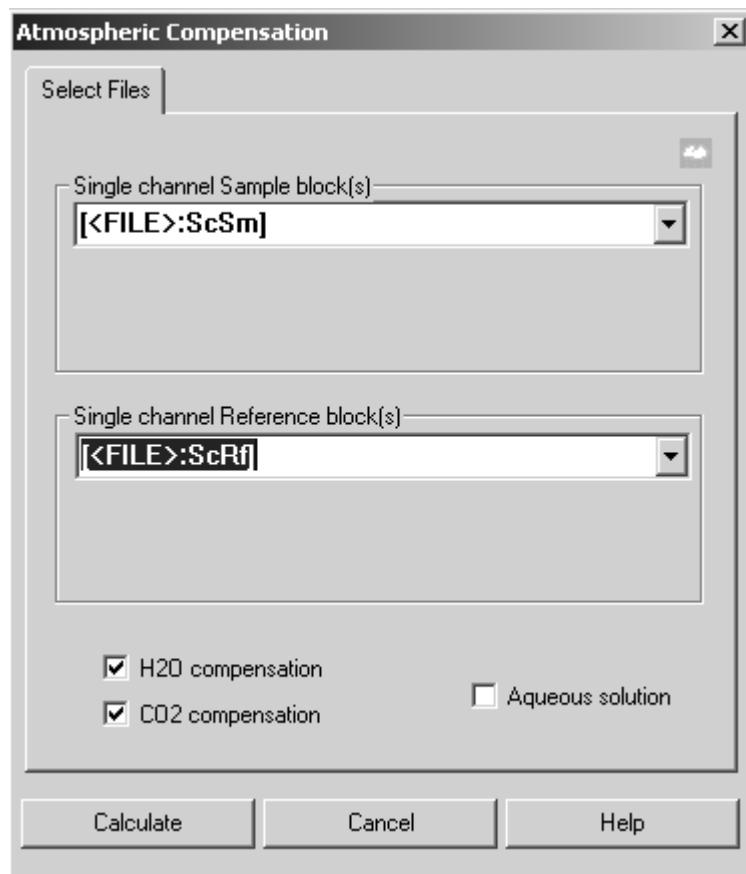

Figure 186: Atmospheric Compensation - Select Files tab
- The spectrum should not end at a wavenumber which shows strong absorption of atmospheric gases. To get a similar H2O compensation (see figure 186), the lower wavenumber limit **must not** be around 1700cm-1.